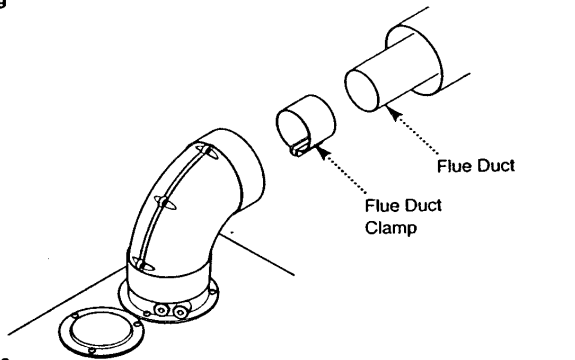

Fig. 30
16. Locate the flue duct clamp on the flue outlet elbow. Draw the flue duct out of the air duct, engage it in the clamp and tighten the screws (Fig. 30).